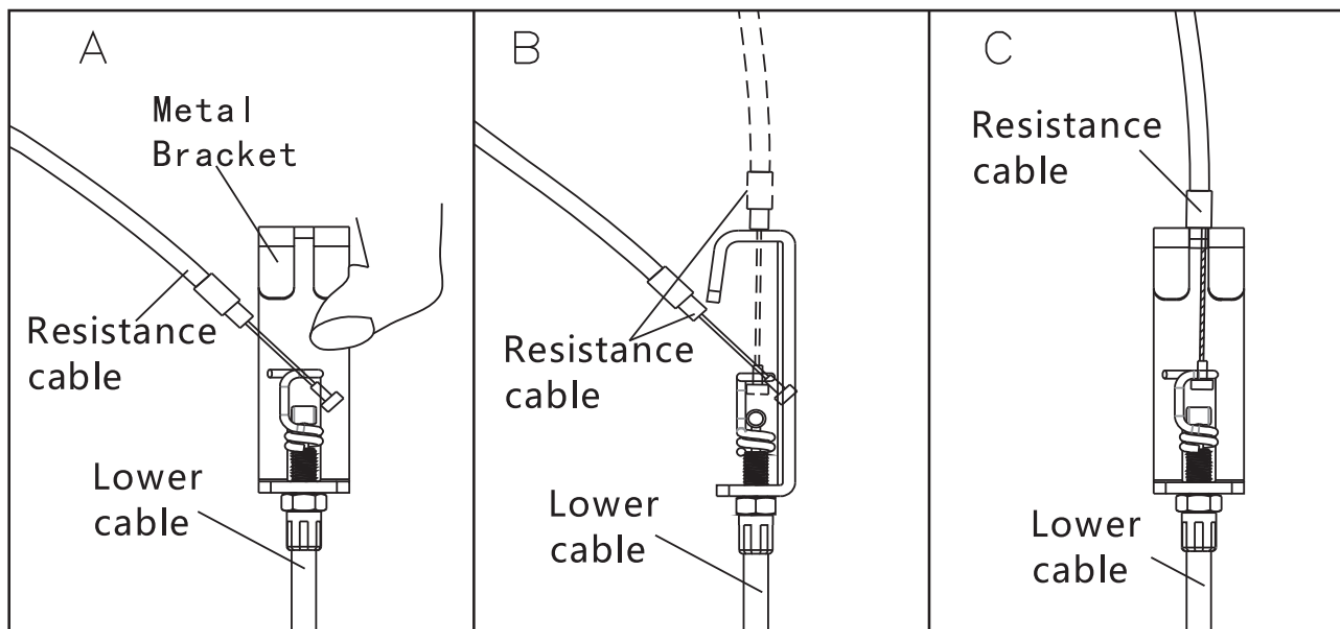

Figure 4
3.1 Connect the resistance cable with the lower cable firmly, then pull the resistance cable up and hang it on the hole of the metal bracket. (see fig. 4).